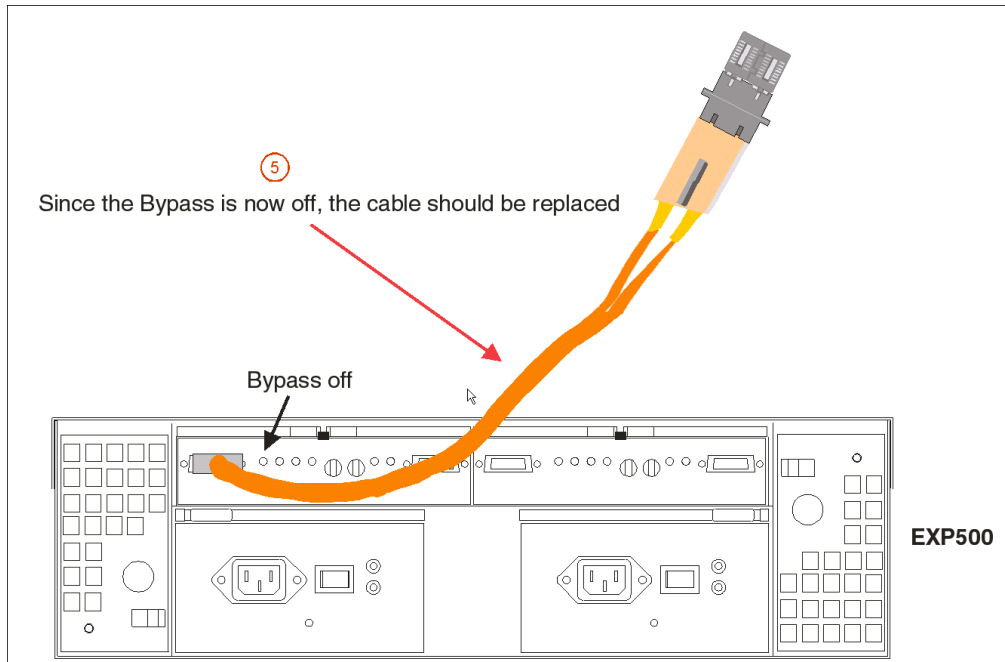

Figure 159. Insert wrap plug into element
5. As was shown in step 4, insert the wrap plug into the element from which the cable was removed in step 3. See Figure 159 on page 328.